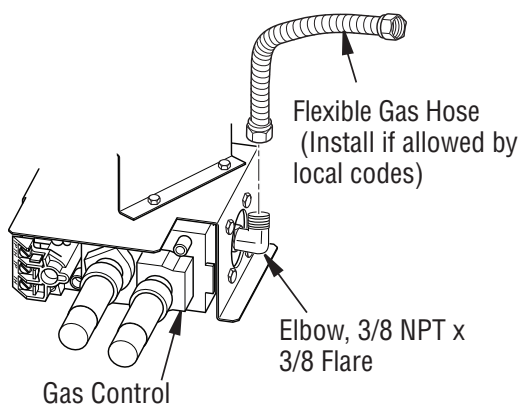

Figure 10 - Attaching Flexible Gas Hose to Heater Gas Regulator
1. Apply pipe joint sealant lightly to male threads of the 1/2 NPT side of gas fitting elbow (provided) and connect to inlet side of gas control. Remove gas fitting from flexible gas hose (provided) before connecting to elbow (see **Figure 10**).